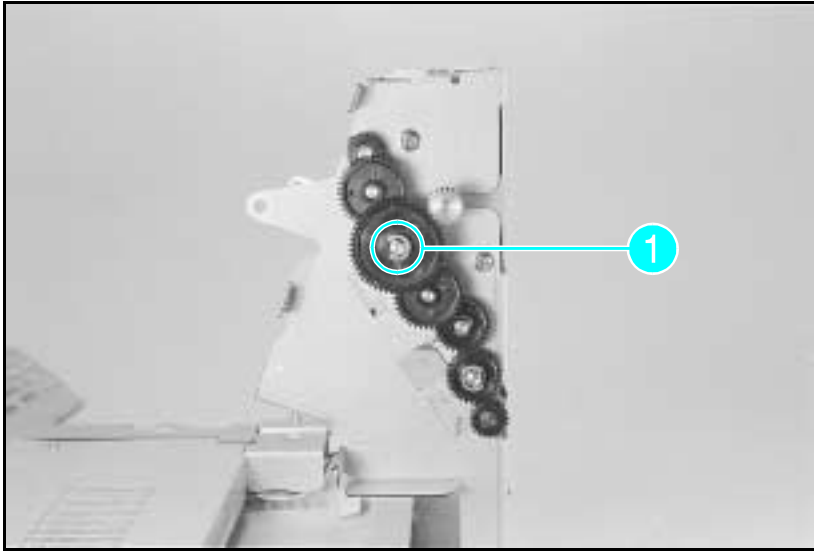

Figure A-15 **Gears on Paper Roller**
- 5** Remove the (1) E-clip from the gears on the shaft on the Power PCA side shown in Figure A-15, callout *1*.